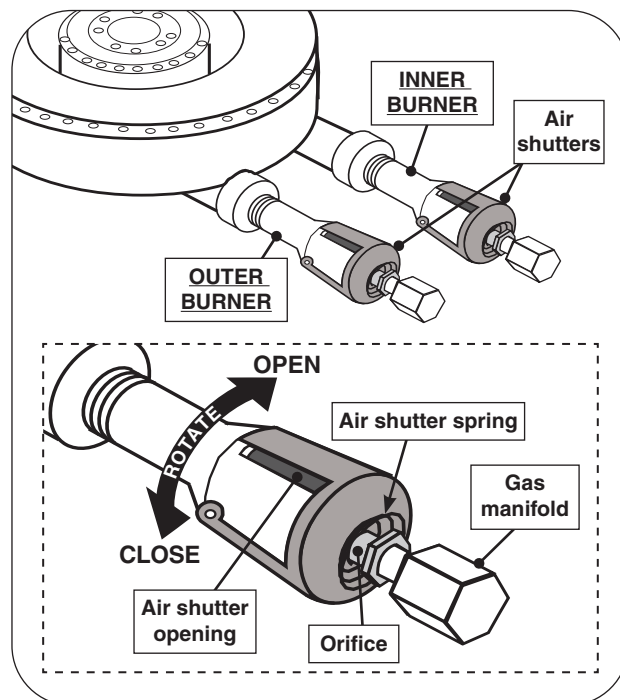

Fig. 52-1 Power burner air shutter adjustment detail
1. To adjust the air shutters, rotate the shutters to open or close them. See Fig. 52-1 for details.